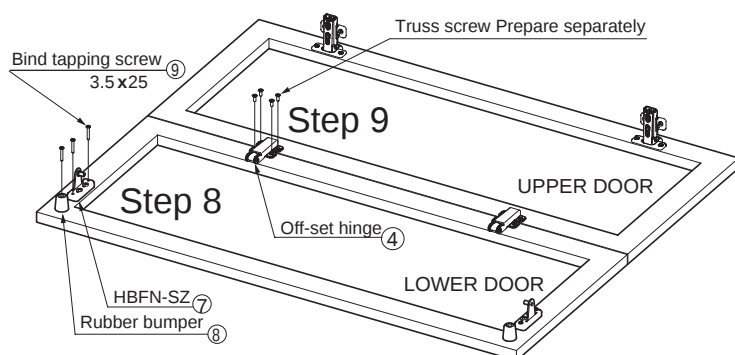

Fig. 8 Installation of HBFN-SZ mounting plate and off-set hinge
- Step 8. Fix the HBFN-SZ mounting plates ⑦ tightly and place the rubber bumpers ⑧ to the specified position of the back of the lower door with the attached bind tapping screw 3.5x25 ⑨. (Fig. 8)
- Step 9. The off-set hinges ④ should be used for the connection of the upper door and the lower door. The installing position of the off-set hinges should be set the hinge center at the lower door side. (Fig. 8)